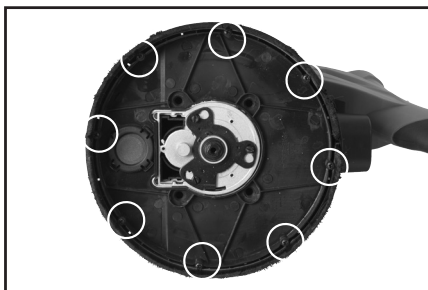

Fig. 20
remove the eight (8) self tapping screws (**Fig. 20**) that secure the Brush Skirt into the Sanding Head.